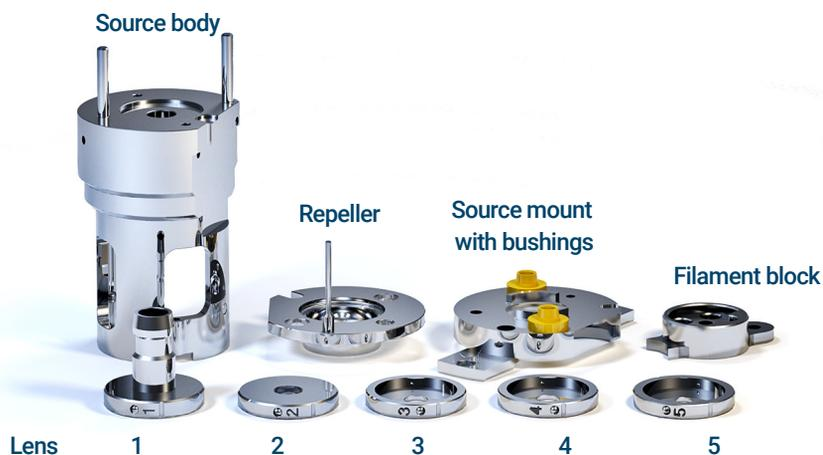

Figure 38. EI HES parts to be cleaned
- 2 Collect the following parts to be cleaned: (See **Figure 38** on page 128.)
- Extractor lens (5)
- Post extractor lens 1 (4)
- Post extractor lens 2 (3)
- Ion focus lens (2)
- Entrance lens (1)